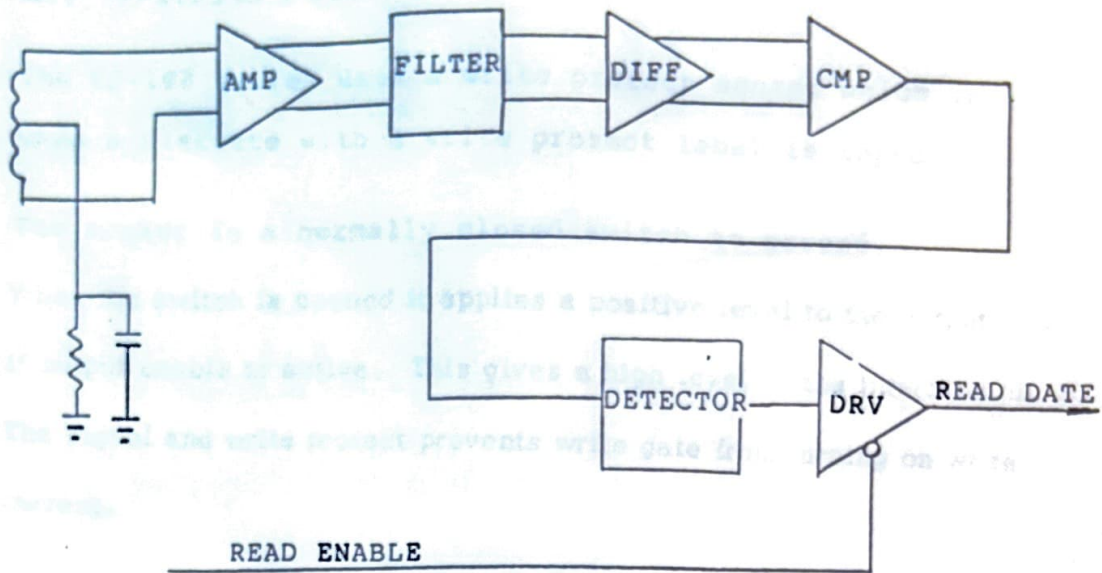

FIG.2-8 READ CIRCUIT FUNCTIONAL DIAGRAM
2.6 READ CIRCUIT OPERATION (FIGURE 2-8)
Since a pulse occurs at least once every 8 μ s and when data bits are present once every 4 μ s, the frequency of the read data varies. The read signal amplitude decreases as the frequency increases. Note the signals on FIG. 2-8. The differential amplifier will amplify the read signals to even levels and make square waves out of the read signals (sine waves).